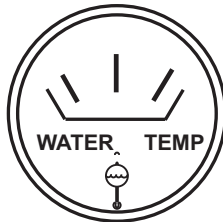

Figure 56. Coolant Temperature Gauge
18. The **coolant temperature gauge** (Figure 56) will indicate the coolant temperature. Under normal operating conditions the coolant temperature should be between 167 and 203 degrees Fahrenheit (**Green Zone**).